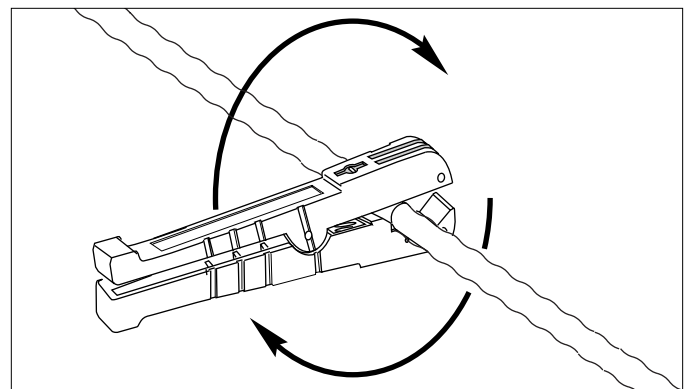

Figure 7 — Ring cutting the jacket
Step 8: Using the coaxial cable cutter, make a ring cut through the outer jacket *and score the armor* at the C strip-length mark (Figure 7). It may take several rotations (5-7 or more) depending on blade sharpness. Do not cut into inner cable jacket. It is safer to make several rotations, flex and try to snap the armor and repeat the process rather than to cut through outer and inner jackets at once.